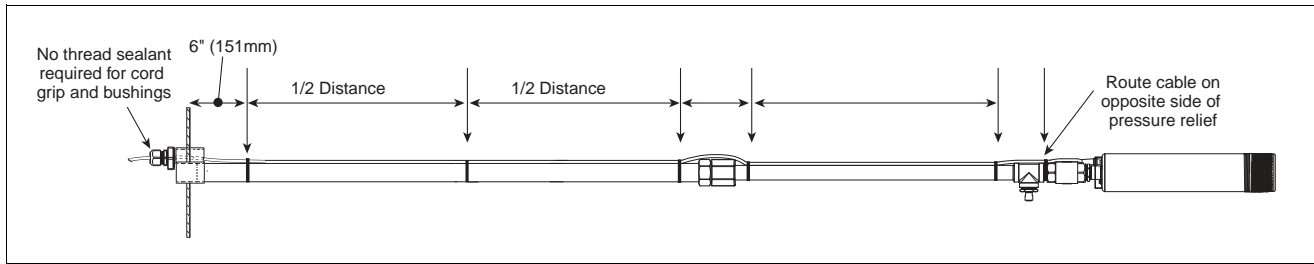

Figure 12. Tie Strap UMP Cable to Column Piping (Shown W/Fixed Pressure Relief Assembly)
9. Secure the UMP cable to the column pipe with tie straps. Locate the tie straps approximately as shown in Figure 12. Ensure the UMP cable is not in front of (blocking) the pressure relief nozzle (if applicable).